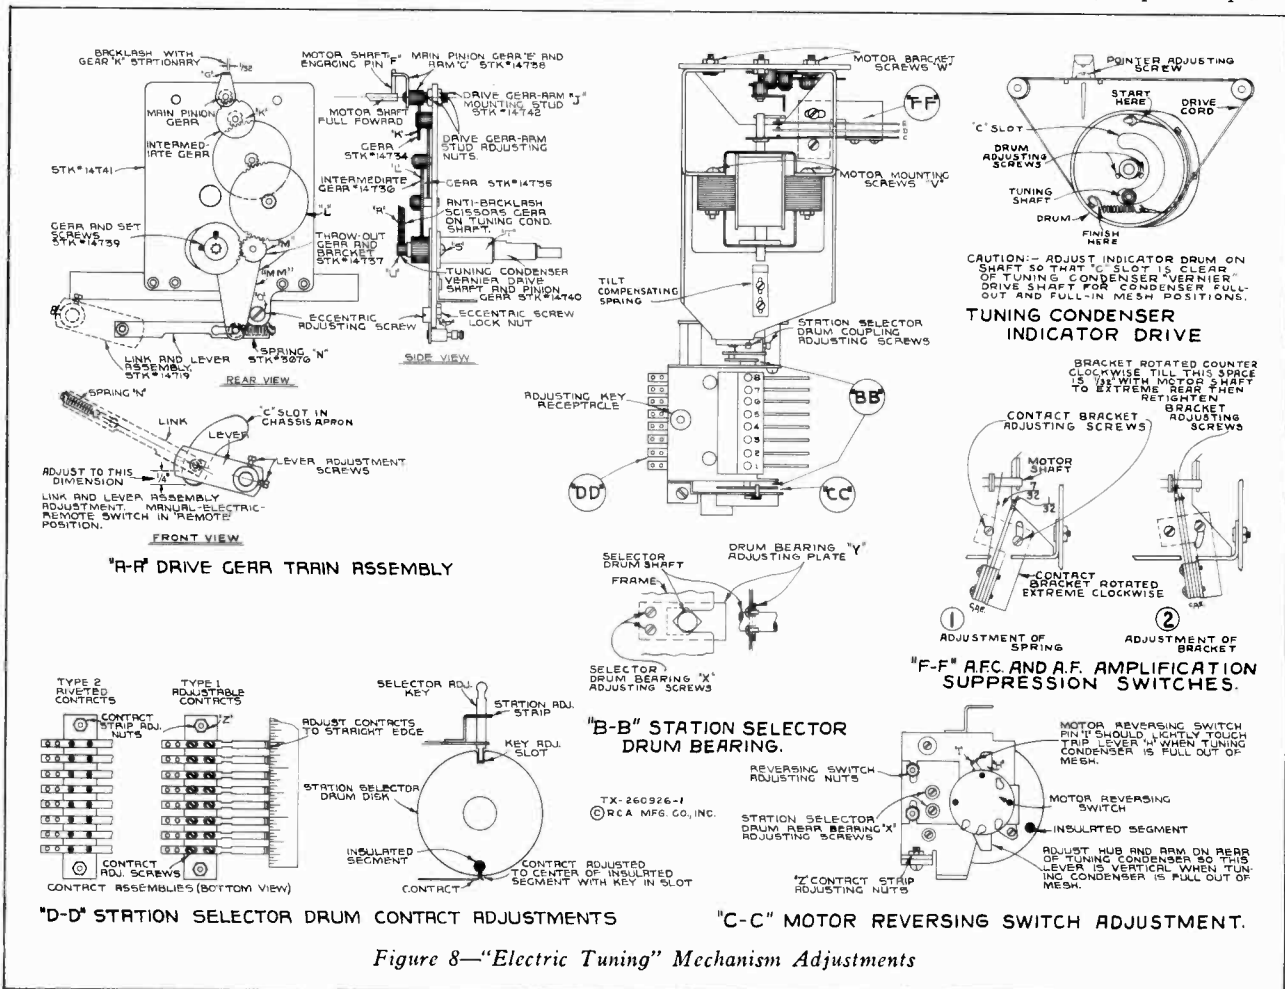

Figure 8—"Electric Tuning" Mechanism Adjustments
The electric tuning mechanism is designed to be as simple in construction and as fool proof in operation as is possible. In order to maintain the accurate results possible with this device care must be taken in effecting any repairs or adjustments. Reference should be made to figure 8 and the following:
Station Selector Drum.—(1) Bearing Adjustment—The selector drum may be removed by unscrewing the two bearing adjusting screws "X" on the front and rear bearings and sliding shaft out of slots on frame. To replace drum, the reverse procedure should be followed holding bearing adjusting plates "Y" firmly against the shaft and tightening adjusting screws. (2) Contact adjustment—Two types of contact strips are used. They are designated on figure 8, as types 1 and 2, on which the individual contacts are respectively adjustable and fixed. On type 1, the individual contacts should be adjusted by setting the end contact springs near the mid-position of their travel and aligning the remaining springs to them by means of a straight edge. Either type of contact strip should be adjusted to the selector drum by placing two selector adjusting keys in the station adjustment strip, positions 1 and 8, loosening contact strip adjusting nuts "Z" and shifting the contact strip until the end contacts are exactly centered on the respective disc insulating segments. More accurate adjustment may be made by silhouetting the point of contact with a piece of white paper held behind the contact. Adjustment will be facilitated by removing complete assembly from rear of tuning condenser by unscrewing the three mounting screws. Contacts and discs must be kept free of dirt, filings, and other extraneous matter.